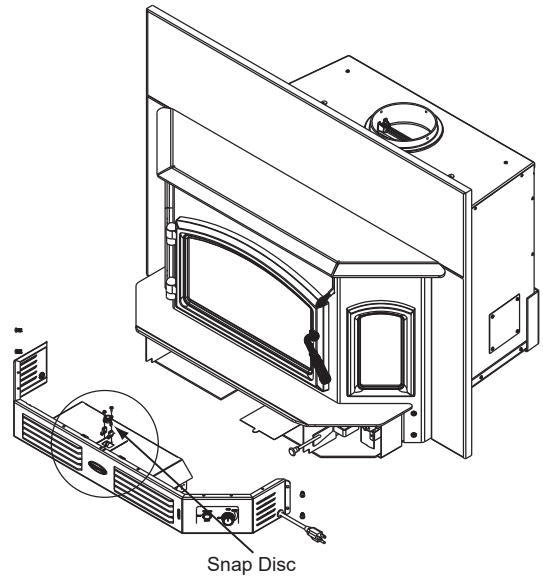

Figure 23.2 - Snap Disc Location
1. The snap disc bracket assembly is located on top of the blower housing in the center (**Figure 23.2**).